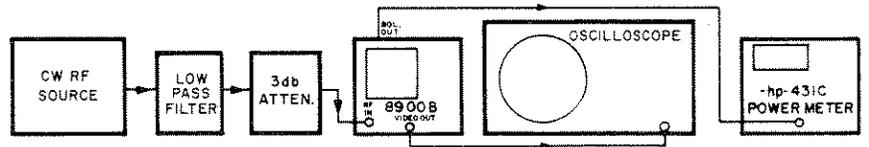

Figure 5-2. Calibration Check
1. Connect equipment as shown in Figure 5-2.
<ol style="list-style-type: none"> <li>1. Connect equipment as shown in Figure 5-2.</li> <li>2. Set  8900B            Function Switch: MEAS            COARSE and FINE controls: Adjust for 20 mw reading on Peak RF Meter  Pulse Generator            Pulse Amplitude: 100 volts, negative-going            Repetition Rate: 10 kHz            Pulse Width: 10 <math>\mu</math>sec            Trigger: Internal  RF Source            Output Frequency: 900 MHz  Oscilloscope            Vertical Sensitivity: 50 mv/cm</li> <li>3. Adjust level of RF source to 20 mw as determined by 8900B measurement.</li> <li>4. Change 8900B Function Switch to MON/CAL position.</li> <li>5. Change oscilloscope connection from 8900B VIDEO OUT to MON OUT connector and measure voltage level. The detected pulse level should be greater than 200 mv P-P for 20 mw input.</li> </ol>